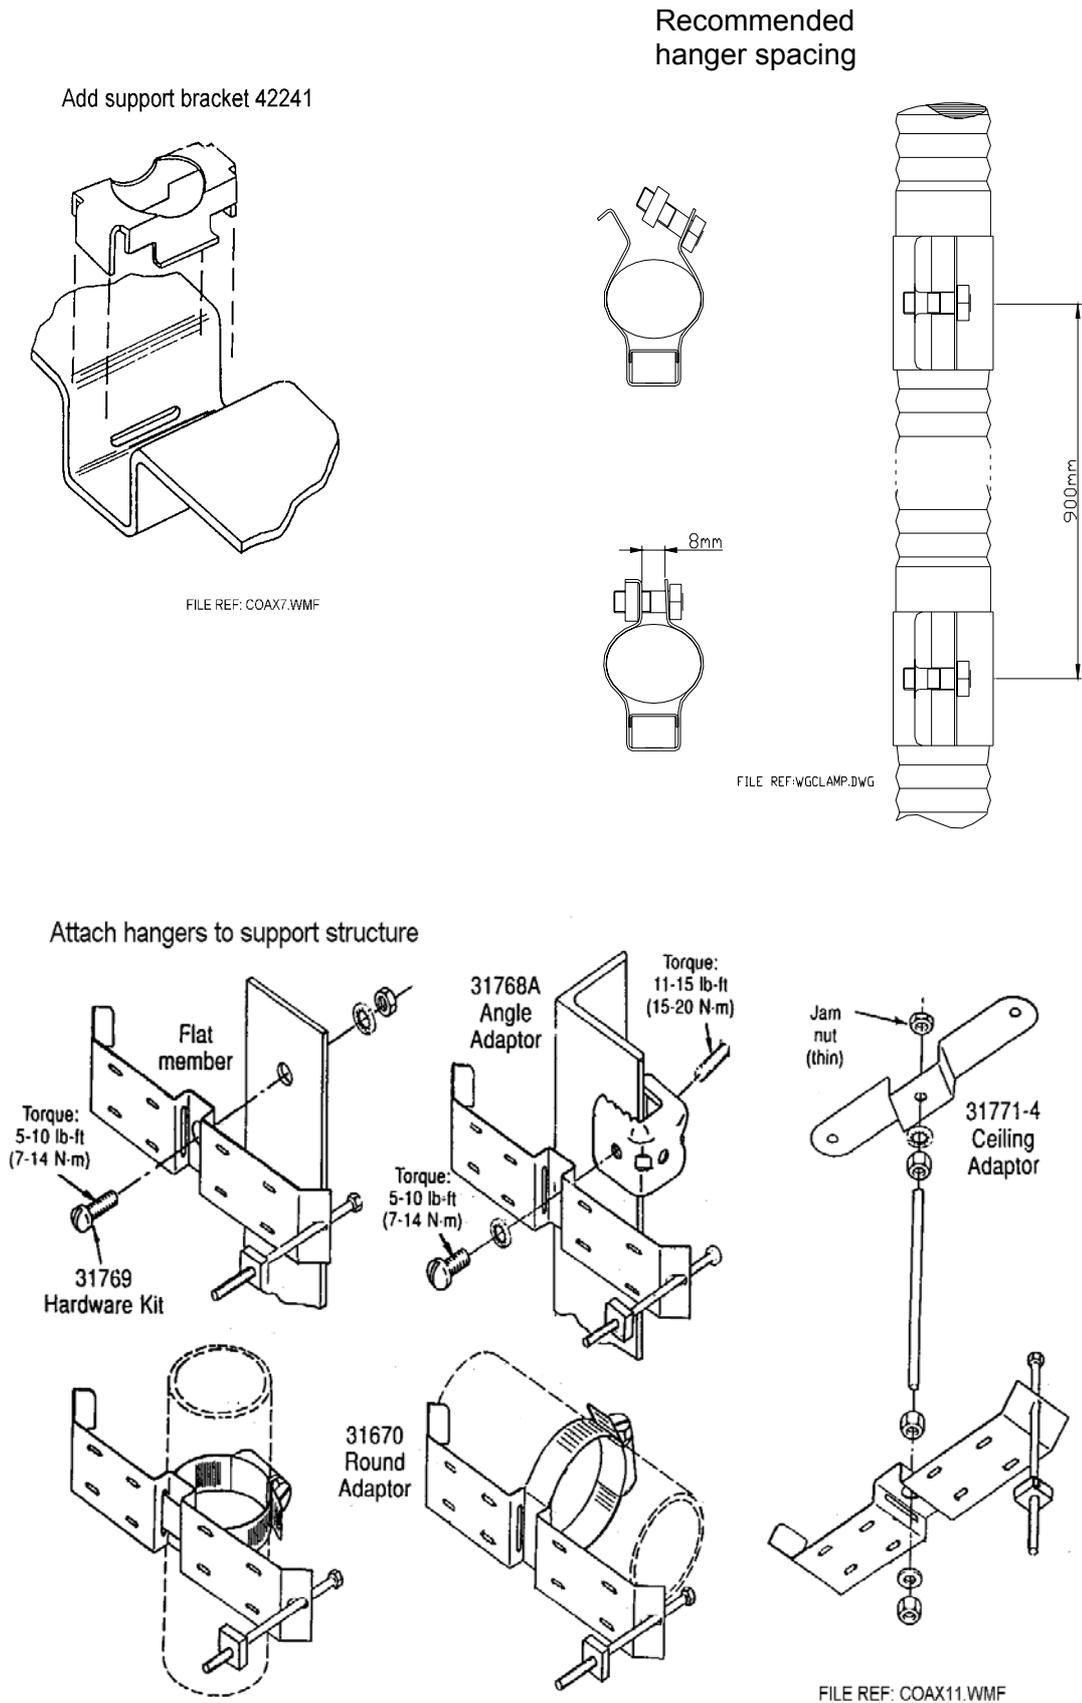

Figure 3.35. Waveguide Support Details
- d. The waveguide should be installed and secured in position (using the waveguide supports shown in Figure 3.35 as far as is practicable before the lower (Transceiver Unit) connector is fitted to the waveguide. The precautions given in subparagraph a above must be observed if a bend is required adjacent to the Transceiver Unit.
11. Waveguide hangers are supplied (Andrew hanger kit type 42396a-5) for supporting the waveguide along its run between the scanner unit and the bulkhead transceiver. Each kit contains 10 hangers. Their associated support assembly (Andrew type 1116.b) and fixing kit (Andrew type 31769-1) are included as part of the installation kit. Normally, a hanger is attached to a cable entry tray using suitable bolts at the recommended spacing of 0.9 metres (3ft). The support brackets must be fitted to the hangers to prevent distortion when the hanger is wrapped around the waveguide as show in Figure 3.35.
12. Figure 3.35 also shows additional hardware (not supplied in the installation kit) that facilitates special mounting arrangements. If required, these are obtainable from Andrew Corporation.